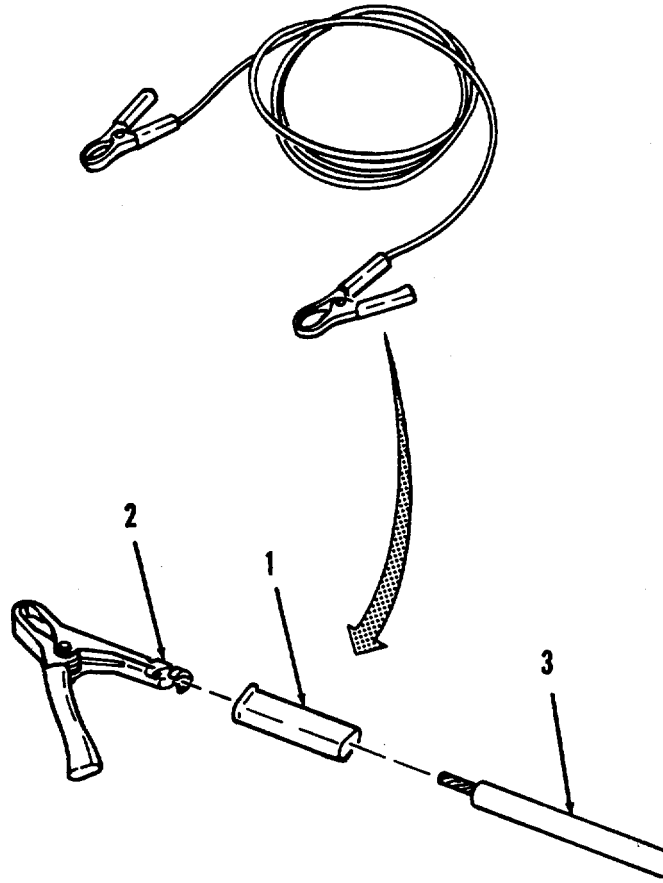

Figure 4-3. Ground Cable Assembly Repair.
**a. Disassembly.** (Refer to Figure 4-3).
- (1) Pull protective sleeve (1) down clamp handle (2) until sleeve is away from clamp handle.
- (2) Remove wire (3) from clamp (2).
- (3) Repeat for other clamp if required.